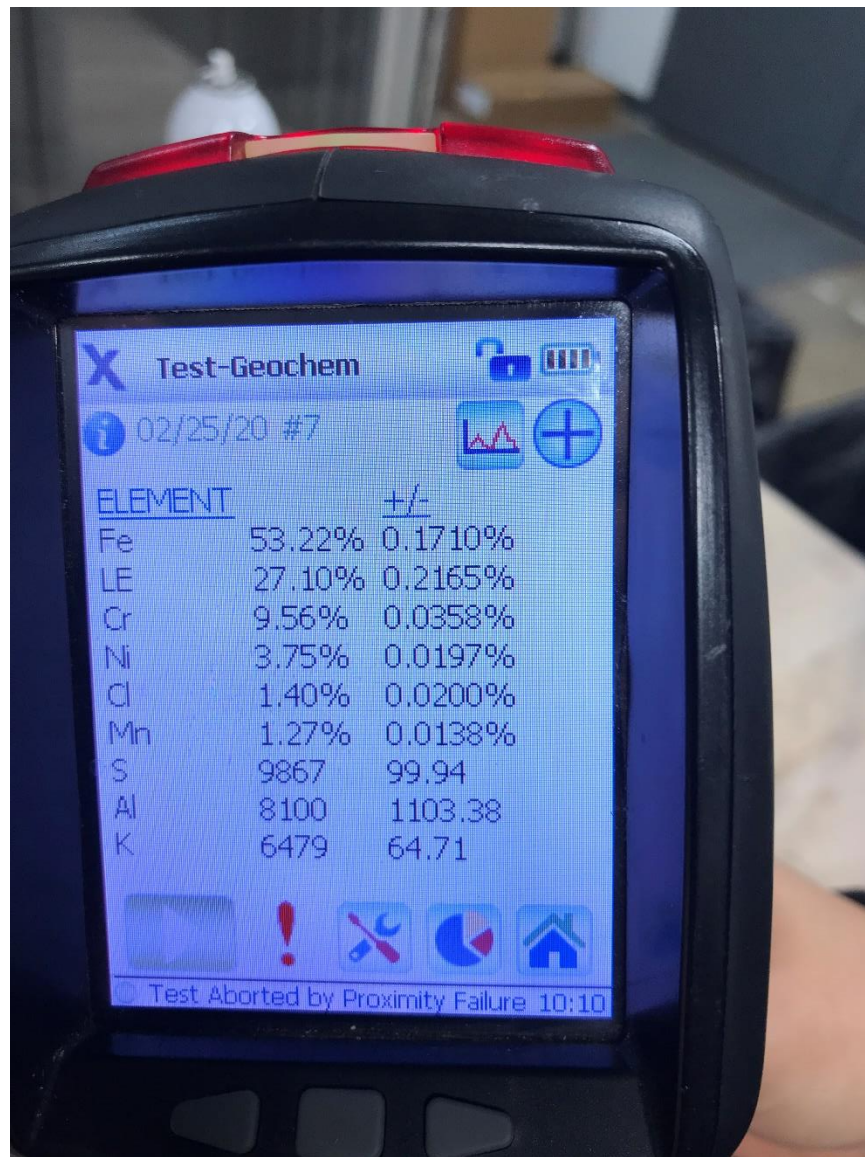

Figure 7
The first stainless standard was alloy 303. Stainless steel 303 is known as a free machining stainless due to the addition of sulfur (S). The elemental composition of stainless steel 303 standard is shown in Figure 7. Notice the dominant iron (Fe) content, as expected. The relatively lower LE reading is due to our chemist developing a better technique to aim at the tiny standards, also notice the sulfur (S) content.